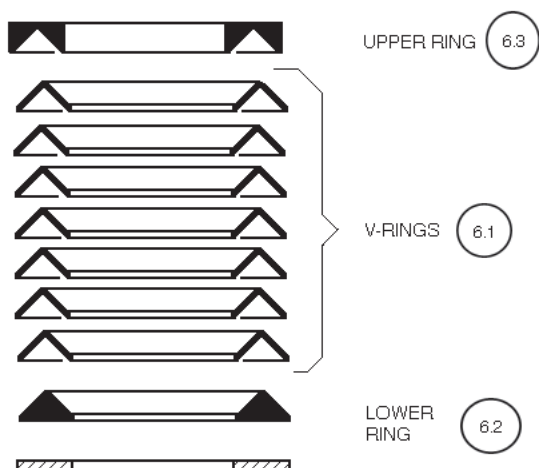

Figure 8: Packing Ring Set
7. Center the loose parts (10) (7) surrounding the stem (9) as close as possible.
8. Position the bonnet (2) over the exposed upper stem sub-assembly (9), ensuring that the anti-rotation "stop" (square or flat surface of the stem) is properly engaged into the bonnet (2) square recess.
9. Place a temporary spacer device (screwdriver blade, nuts, plain washers, etc.) equally spaced on the body (1) flange to hold the bonnet (2) up, as bonnet is lowered into the body, maximizing the gap between the bonnet flanges (1) (2).
10. Place anti-seize thread lubricant on bonnet cap screws (14). Engage all bonnet cap screws (14) with lockwashers (13) approximately 1-1/2 revolutions.
11. Visually observing the gap between the bonnet (2) lower flange surface and the body sub-assembly (1) bonnet flange, apply downward force tending to seat the plug end (3). This will pull the bellows (8.1) into proper position for the primary bonnet seal.
12. When visually satisfied of concentricity and alignment of parts (10) (8) (11) (7), remove temporary spacer while continuing downward force on the stem (9) while simultaneously holding the bonnet (2) from dropping downwards.
13. Lower bonnet (2) carefully downwards into the recess of the body sub-assembly (1) while continually applying downward force on the stem (9).
14. At this point, downward force on stem (9) may be exchanged for downward force on the bonnet (2). Hand-tighten all bonnet cap screws (14); relax downward force on bonnet once cap screws have taken up all slack.
15. Using a torque wrench, tighten bonnet cap screws (14) in alternating cross-pattern in 1/4 revolution increments to 40 ft-# (55 N-M).
16. Engage threaded, vented pipe plug (12) into the 1/8" NPT tap on the bonnet (2) if it was removed. If a lubricating oil is compatible with the fluid, a light coating will aid in preventing galling of the plug (12). Ensure that the tip of the notch on the threads is in the bonnet (2) at least 1-1/2 revolutions. **Do not** over-tighten to minimize chances of galling. **Do not** use thread sealing compound that might "fill in" the notch and negate the purpose of the notch.
17. The packing ring set (6) design is identical for all unit body sizes. It consists of seven V-rings (6.1) and one each male (6.2) and female (6.3) adapter. (See Figure 8.) The purpose of the packing rings (6) is to minimize moisture ingress, and to serve as a secondary stem seal in the event of bellows sub-assembly (8) failure. Carefully install rings (6) as indicated in Figure 8, one at a time, using a hollow tool to press the rings (6) to their final position. Take care in slipping the rings (6) over the threaded end of the stem (9) so as to not mar the ring's (6) internal surfaces. **Do not** reverse orientation for vacuum service. **Do not** "split" rings (6) for ease in replacement. **Do not** reuse removed packing rings (6).